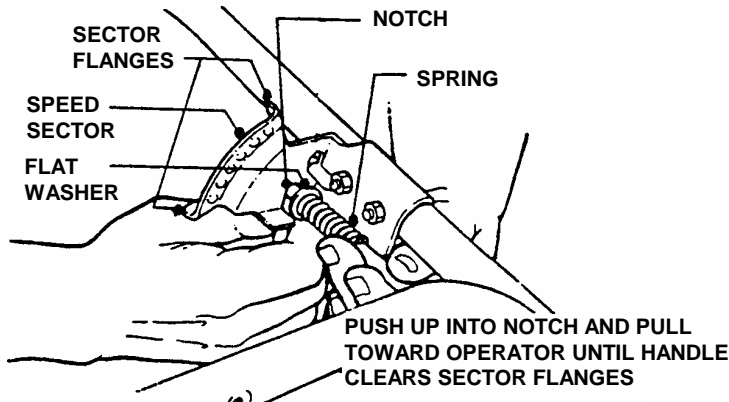
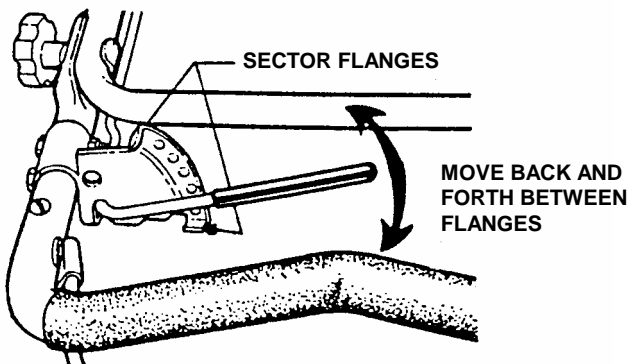

FIGURE 6
FIGURE 7
STEP 6: Rotate control rod up to be connected to the speed sector. Slide flat washer and spring in front of speed sector. See Figure 6. Compress spring by pulling backwards and pulling control lever into the notch. Pull backwards far enough to clear the sector flanges. This will lock speed control lever handle into position. Control rod should move back and forth freely between sector flanges. See Figure 7.